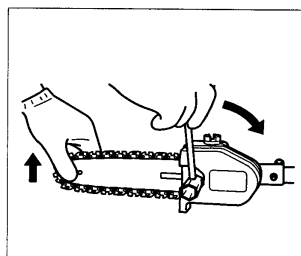

Fig. 1-11
7. Raise the bar end, and tighten the chain (1) by turning the tension adjustment bolt (2) clockwise. To check proper tension, lightly lift up the center of chain and there should be about 0.5-1.0mm clearance between bar and edge of drive link (3). (Fig. 1-11, 12)
**PROPER TENSION IS EXTREMELY IMPORTANT! (Fig. 1-11, 12)**